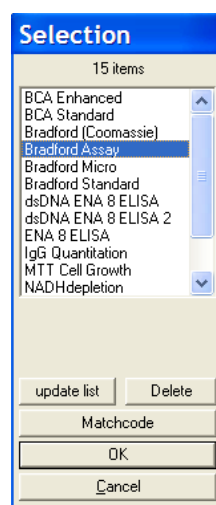

Figure 8-14: Selection – test definitions
3. From the File menu, choose **Open**. Selection appears with a list of saved tests (Figure 8-14).